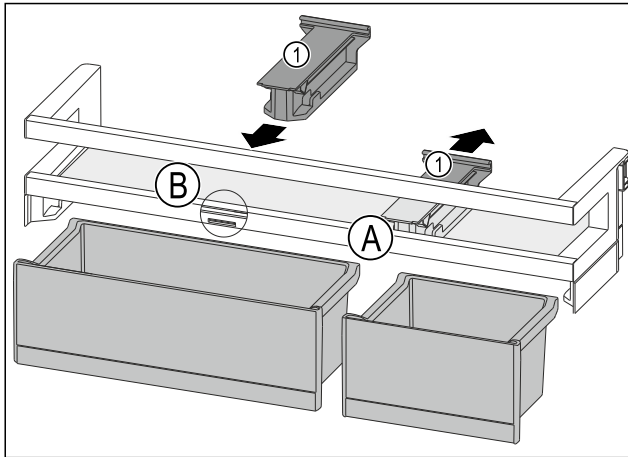

Fig. 114
- Take off the holding part Fig. 114 (1) in position Fig. 114 (A) backwards.
- Insert the holding part Fig. 114 (1) in position Fig. 114 (B).